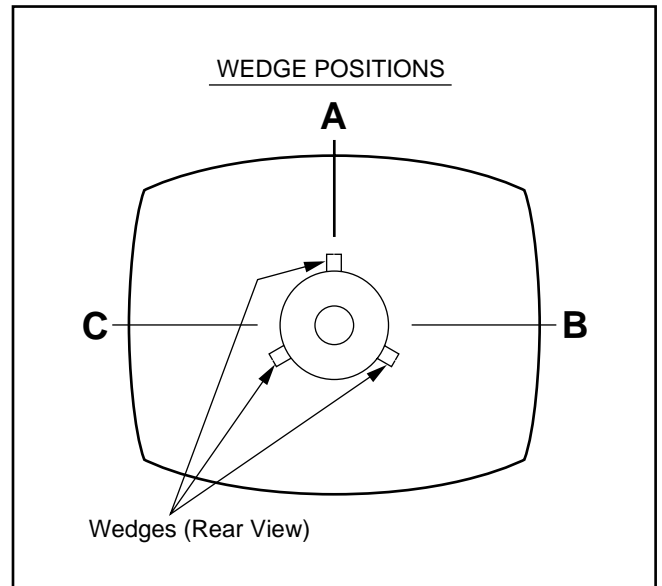

Fig. E10-3
4. Insert three wedges as shown in Fig. E10-3 to maintain the correct crosshatch pattern position.